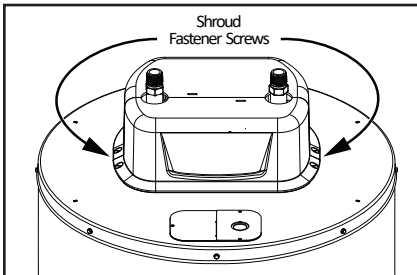

Figure 46 - Shroud fastener screw locations.
- 4 Using a 1/4" nut driver, locate and remove the four (4) screws securing the shroud cover to the top of the heater. Lift the shroud cover up and away from the top of the heater to gain access. See Figure 46.